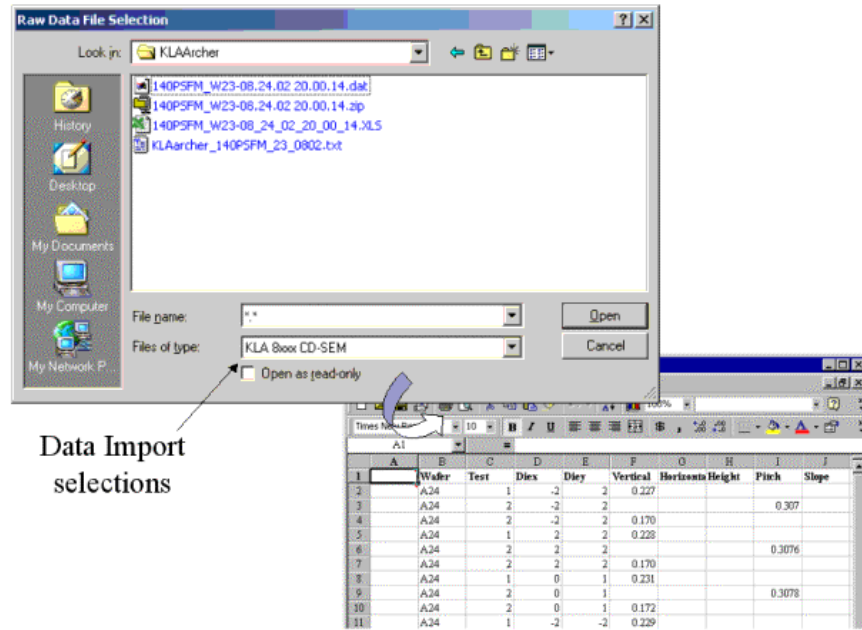

Figure Data1: Data import and conversion.
- The “File/Open Data” menu to access the interface shown in Figure Data1.